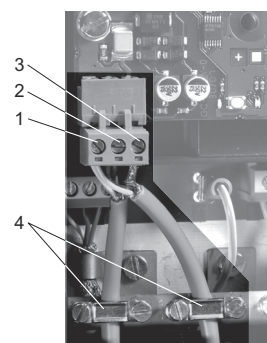

Fig. 4 Connecting the LON module
See fig. 4.
1. Connect the conductors to terminal A (pos. 1).
2. Connect the conductors to terminal B (pos. 2).
3. Connect the twisted screen ends to terminal "Screen" (pos. 3).
**The screen must only be connected to the screen terminal of the CIM 100 LON module. See fig. 4, pos. 3.**
**The cable screen must never be connected to earth via the earth clamp. See fig. 4, pos. 4.**